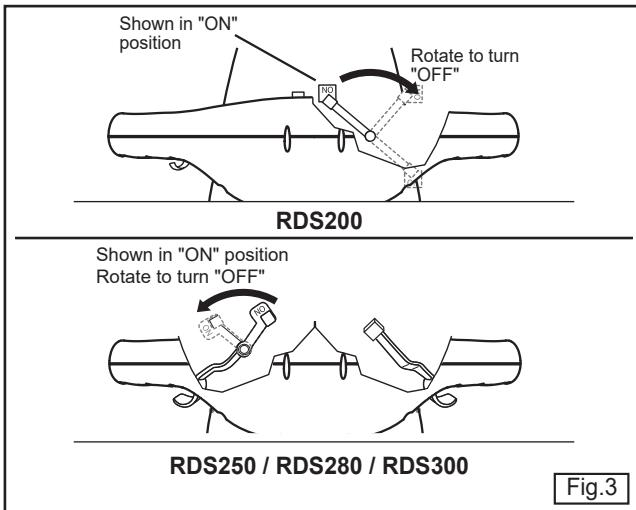

Fig.3
5. When ready to set off, turn the Master Switch to the On position shown in figure 3.
1. Always ensure that the Master Switch is Off - see figure 3.